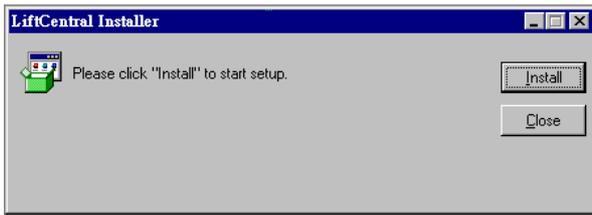

Figure 1-5 LiftCentral™ Install dialog box
- When the **LiftCentral™ Installer dialog box** appears, you are ready to install LiftCentral™. Click on the **Install** button. Figure 1-5 shows the installation dialog box.